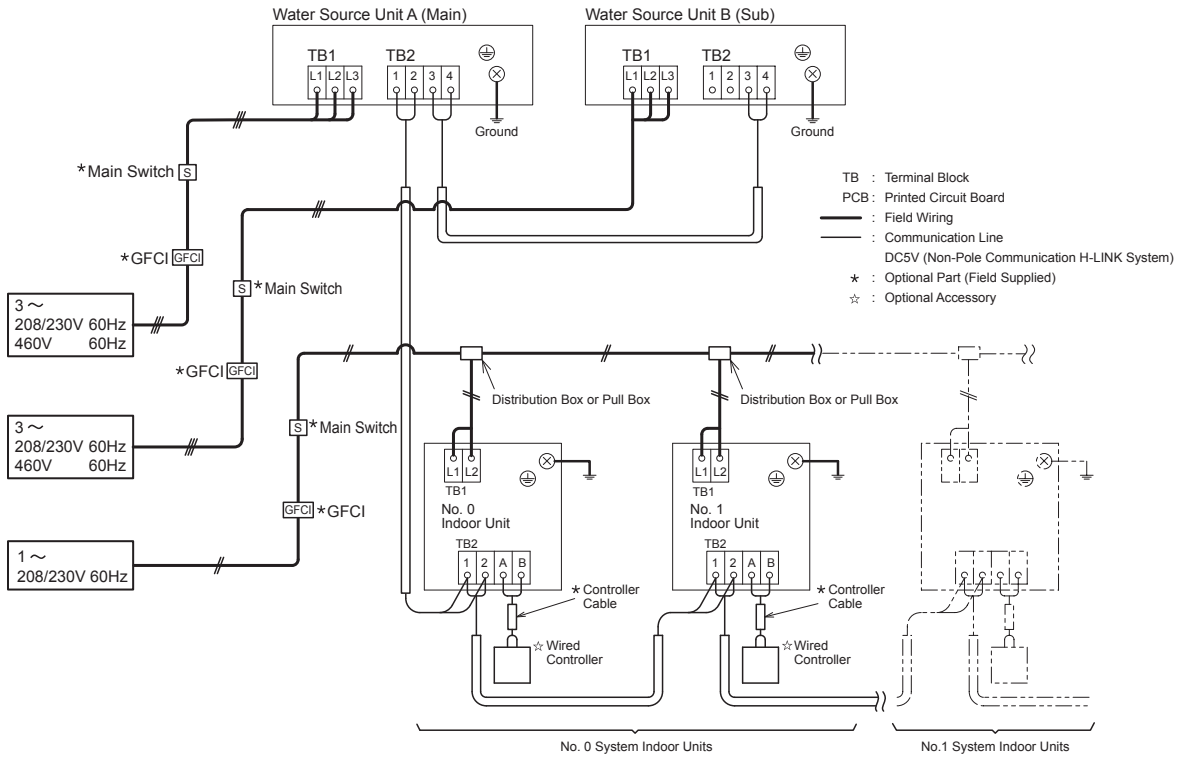

Figure 8.5 Layout for Electrical Wiring Connection (Heat Pump System)
- (1) Connect a power supply wiring to each water source unit. Connect an optional GFCI, fuse, and main switch (S) to each water source unit.
- (2) Connect a power supply wiring to each indoor unit group and change-over box group connected to the same water source unit. (Total operating current be less than 12A.) Connect an optional GFCI, fuse, and main switch (S) to each indoor unit group.
- (3) Connect the communication cable between indoor units, change-over boxes and water source units, as shown in Figure 8.5 and 8.6.
- (4) Connect the communication cables in the same refrigerant system unit. (If the refrigerant piping of indoor unit is connected to the water source unit, also connect the communication cables to the same indoor unit.) Connecting the refrigerant piping and communication cables to the different refrigerant systems may lead to malfunction.
- (5) Use communication cabling that is a minimum of AWG18 (0.82mm2), 2-Conductor, Stranded Copper. Shielded cable must be considered for applications and routing in areas of high EMI and other sources of potentially excessive electrical noise to reduce the potential for communication errors. When shielded cabling is applied, secure properly and terminate cable shield as required per Johnson Controls guidelines. Plenum and riser ratings for communication cables must be considered per application and local code requirements. (Do not use Tri-Core or anything beyond.)
- (6) Use the same kind of cables in the same H-LINK system.
- (7) Maintain at least 5 inches (127mm) between the communication cables and the power supply wiring, and also min. 5 ft (1.5m) between the communication cables and power supply wiring for other electrical device. If these cables are not secured, sleeve the power supply wiring into the metallic conduit tubing to separate them from the other cables. Make sure power supply wiring are well-grounded.